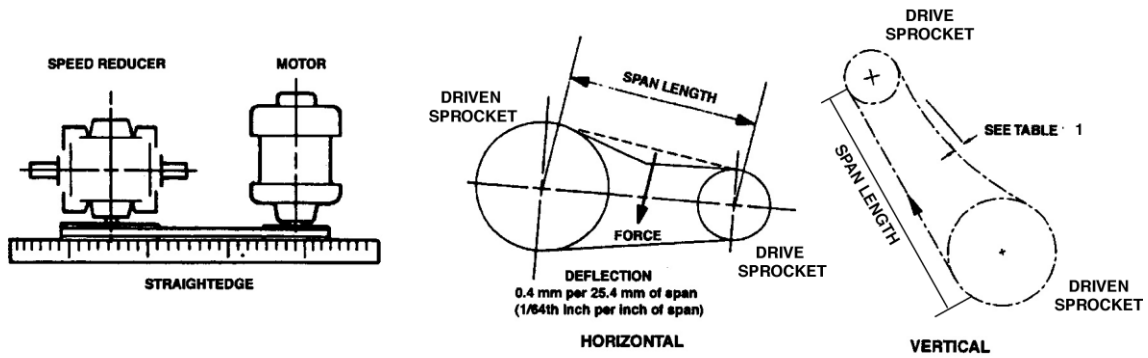

Figure 7: Reducer/Motor Alignment and Tension Adjustment
1. Check the sheave alignment between the motor and speed reducer by placing a straight edge across the face of the sheave faces (Figure 7). Inside and outside sheave diameters should be touching the straight edge at all four points as shown in the illustration. Alignment of the sheaves should be within ± 0.5 degrees or 1/8" per foot (3 mm per 0.3 m).
- Measure the span length as shown in Figure 7.
- Check belt tension by pressing firmly on the individual belt. A belt that can be depressed an amount equal to 1/64th inch per inch of span (0.4 mm per 25 mm of span) is properly tensioned (Figure 7).
1. Check sprocket alignment using a straight edge or taut cord stretched across the faces of the drive sprocket and the driven sprocket (Figure 7). The tolerance is ± 0.5 degrees or $1/8$ " per foot (3.5 mm per 0.3 m).
3. Check roller chain tension. Deflection of the span is shown in Figure 7 and Table 1.